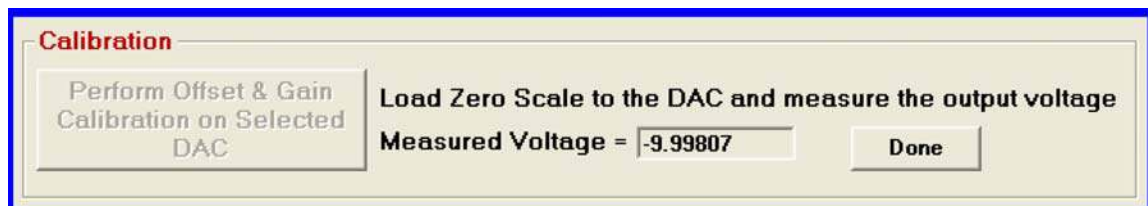

Figure 4. Calibrating for Gain Error
5. Click **Done**. The offset error should now be reduced and the **Calibration** section should display changes as shown in Figure 4.